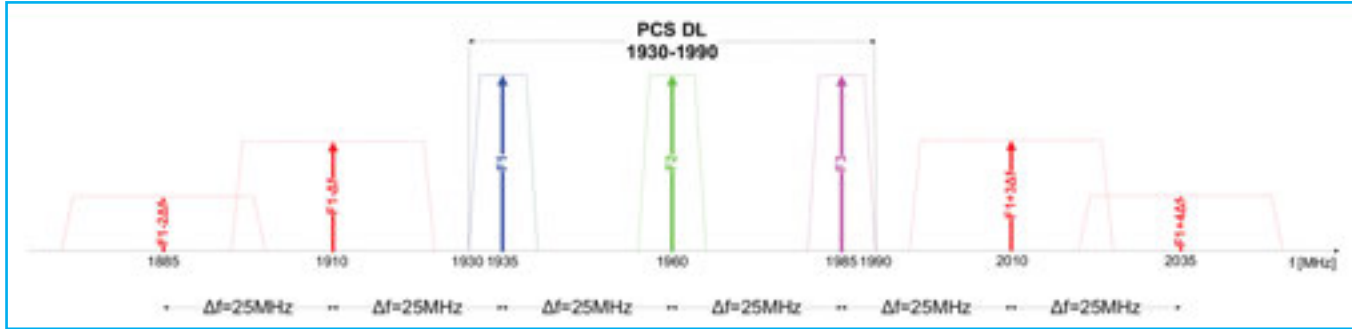

Figure 8: Three evenly spaced carriers are allocated in the PCS band.
In neutral host configurations, multiple channels can be allocated on the same band. Each operator may allocate one or more carriers for each band depending on its spectrum licenses. An example of this configuration is shown in Figure 8, where three evenly spaced carriers are allocated in the PCS band. The summation of third-order IM products within the same frequency is due to the combination of these evenly spaced carriers. The third-order IM products generated by the three evenly spaced, continuous-wave (CW) tones is calculated using the equations in Table 2. The pairs of intermodulation distortion (IMD) terms falling within the same frequencies are highlighted in red. It should be noted that the higher order PIM processes also contribute to the IM products at the frequencies of lower order products.